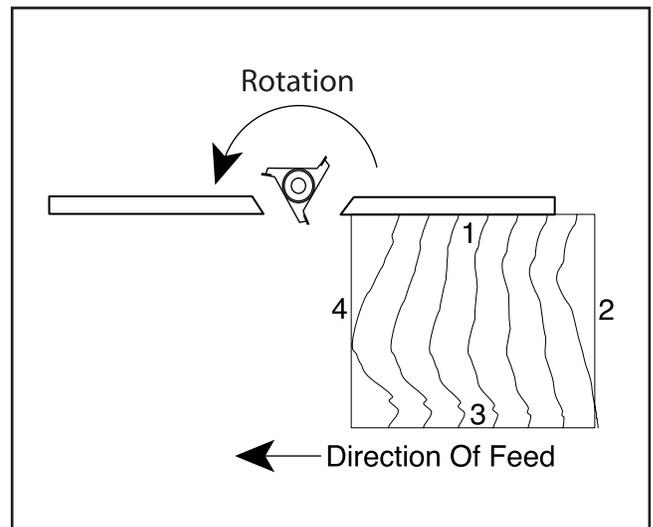

Figure 37. Sequence for multiple cuts.
- Always cut the end grain first when putting an edge around the perimeter of your workpiece. **See Figure 37.**